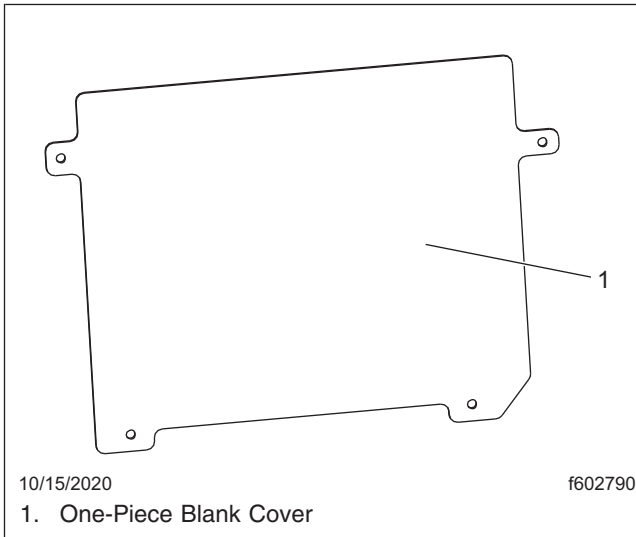

Fig. 3, One-Piece Blank Cover
3. Remove the four screws that attach the one-piece blank cover, shown in Fig. 3, and remove the panel.